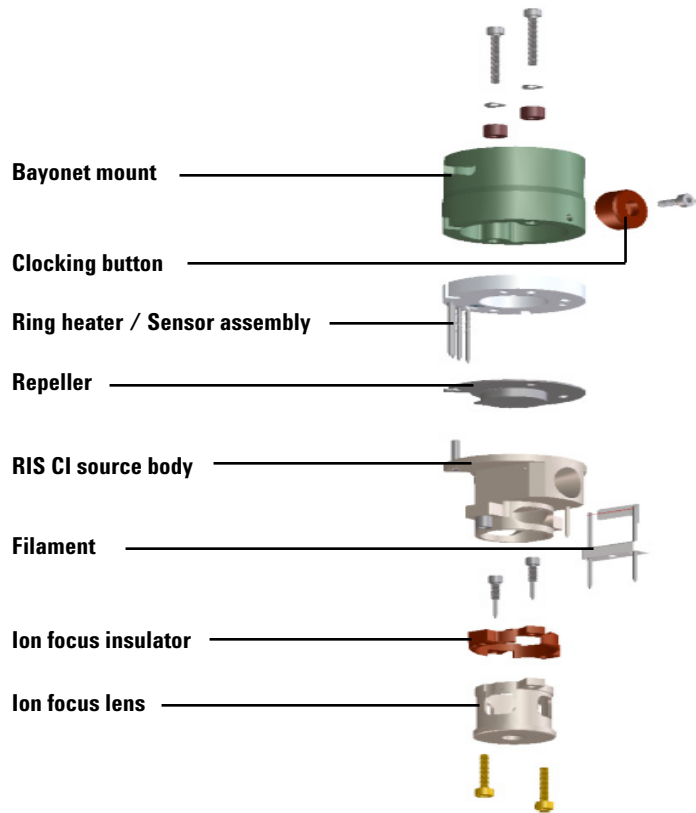

Figure 32 Assembling the CI ion source
- 1 Place the ceramic heater assembly on top of the repeller, aligning the grooves on the repeller with the slot on the heater assembly. (Figure 32).
- 2 Place the repeller on the source body. (Figure 32).